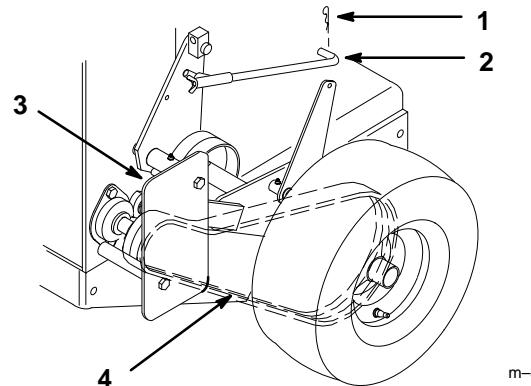

Figure 43
1. Remove hairpin cotter securing brake rod to brake arm to relax belt idler tension (Fig. 43).
2. Remove bottom and loosen top bolts of shield to rotate for belt clearance (Fig. 43).
3. Lift belt past idler and off drive pulley (Fig. 43).
5. Replace drive belt and install brake rod clevis with E-ring (Fig. 43).